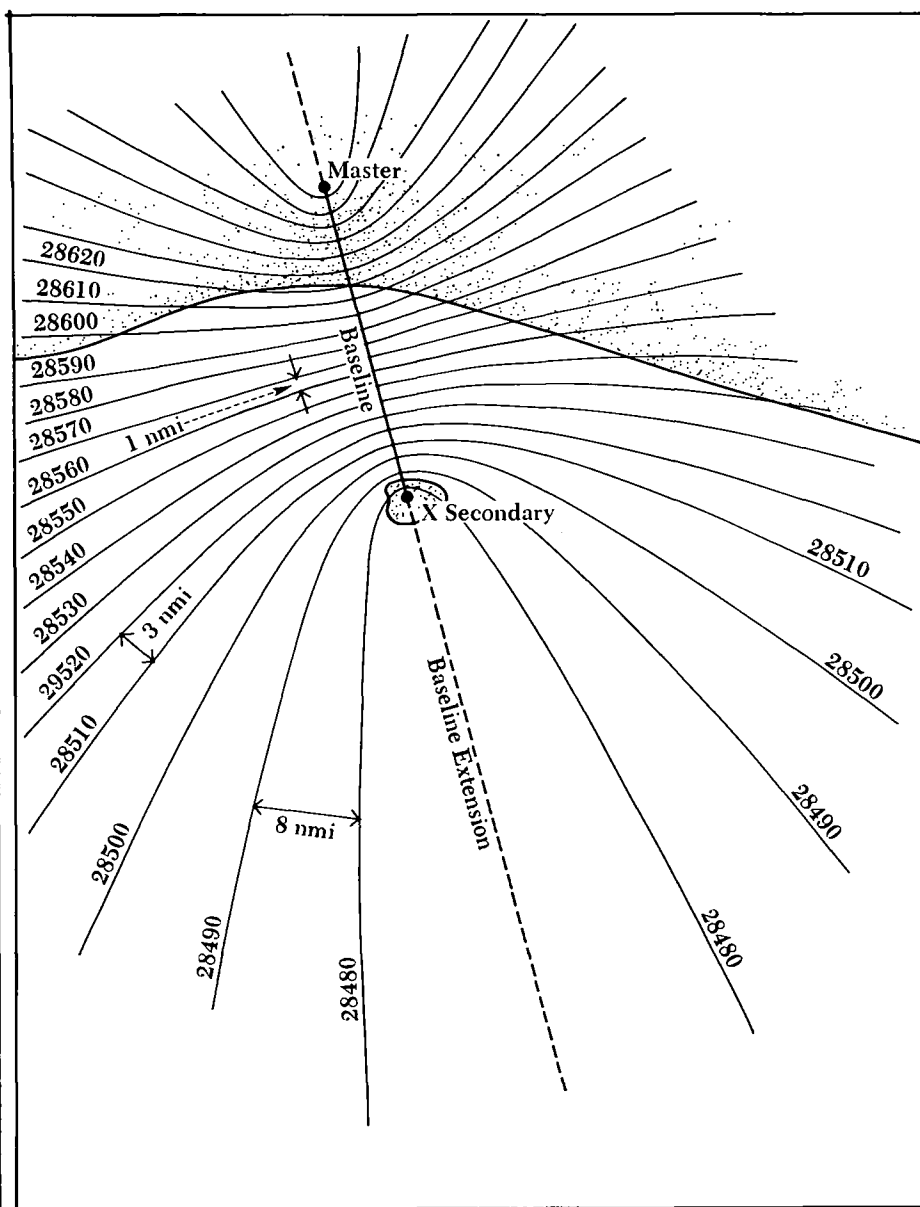

Figure 2.—Baseline extension: Note large gradients near it
**Baseline extension.** Never use a secondary station in the vicinity of its *baseline extension* (see figure 2). Near this line, the gradients become very large. Also there is a possibility of introducing very large errors in position because you may not be able to tell which side of the *baseline* you are on. The baseline extension is labelled on charts.